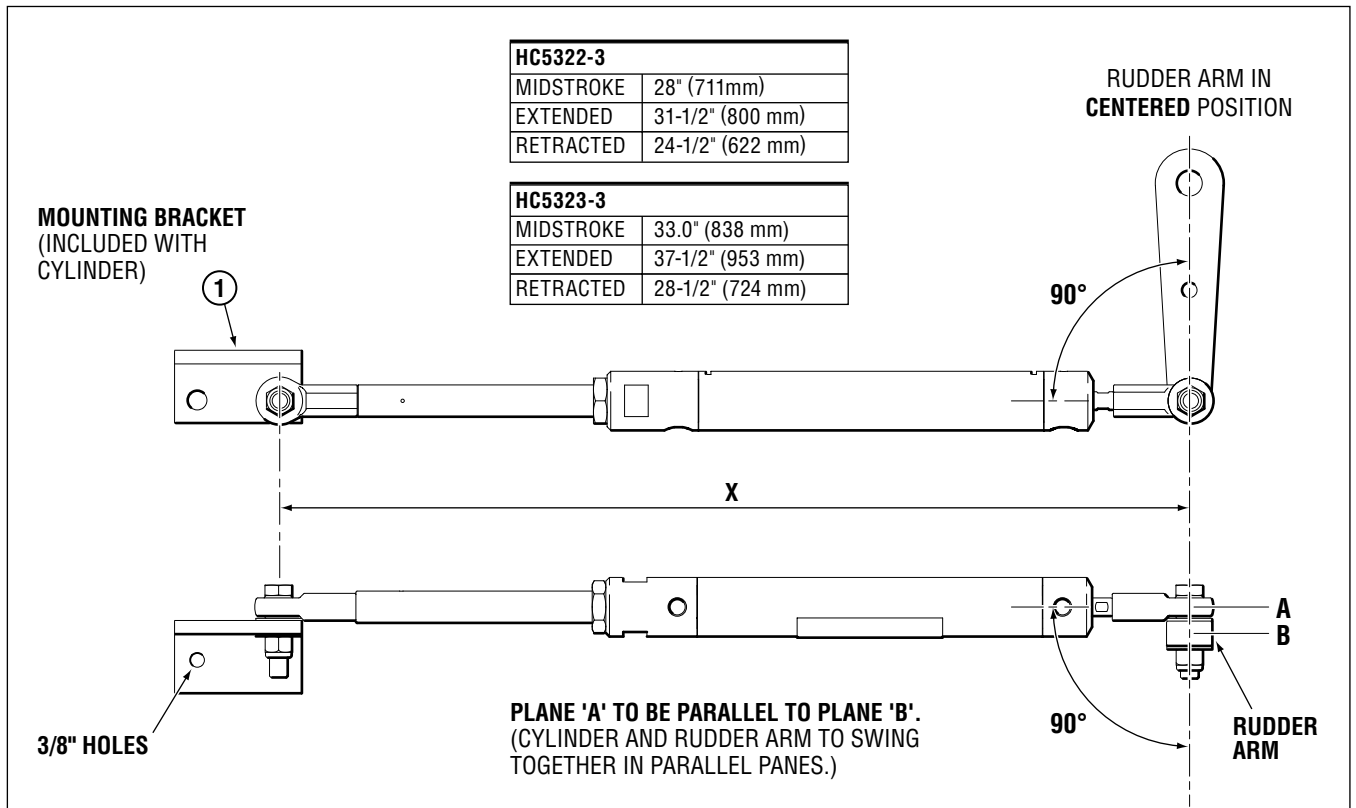

Figure 8. Correct Cylinder to Rudder Arm Mounting Orientation.
- 2** To achieve **MAXIMUM** performance, cylinder is to be mounted at a right angle (90°) to the rudder arm when in the center position (refer to Figure 8 below).
- 5 Place rudder in midstroke position and extend cylinder to mid stroke (see Figure 8).
- 6 Temporarily install the other rod end into the mounting bracket (item 1, Figure 8). Using the bracket as a template, mark off the positions of the two 3/8" holes on the mounting surface.
- 8 Mount the bracket (item 1, Figure 8) with through bolts, washers and nuts (not supplied by SEASTAR SOLUTIONS). DO NOT USE LAG BOLTS.